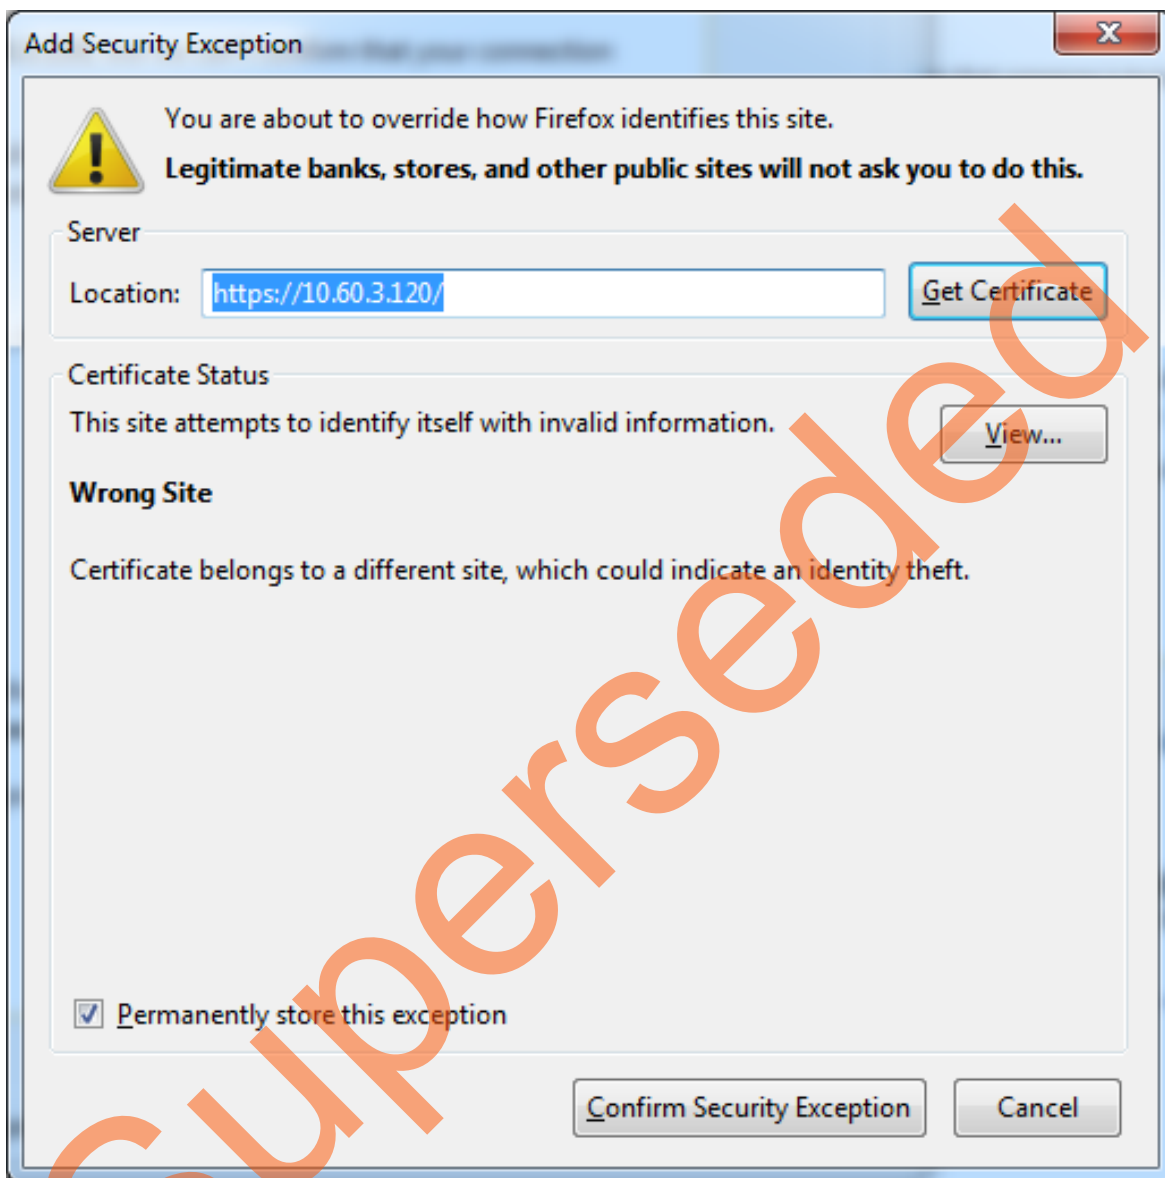

Figure 16 • Add Security Exception Window
3. Click **Confirm Security Exception** in **Add Security Exception** window as shown in Figure 16, to start secure communication with the Webserver.